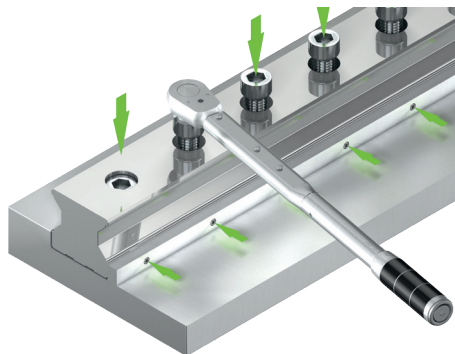

Fig. 5.6 Tensioning using a push screws
- ▶ Tighten the push screws sequentially to press the profile rail firmly on to the machine's mounting edge as shown in Figure 5.6.